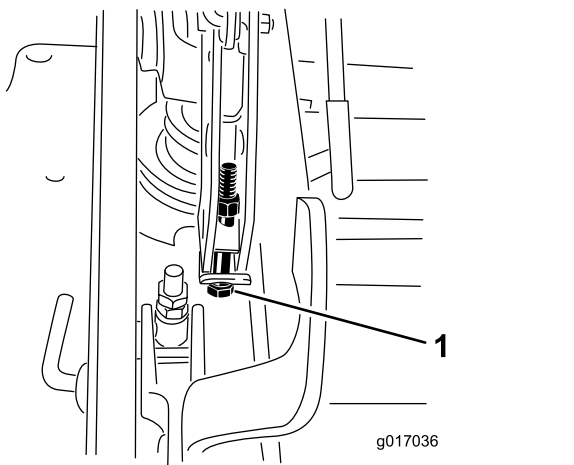

Figure 95
13. If the deck is too low, tighten the single point adjustment bolt by rotating it clockwise. If the deck is too high, loosen the single point adjustment bolt by rotating it counterclockwise (Figure 95).